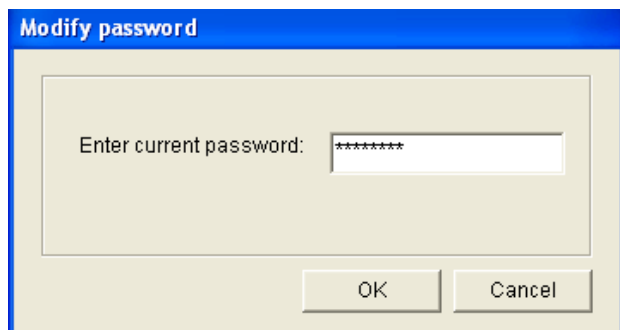

figure 8.20: Enter password window
- 1 From the main menu, click the Modify password button. The following window will appear (see figure 8.20).